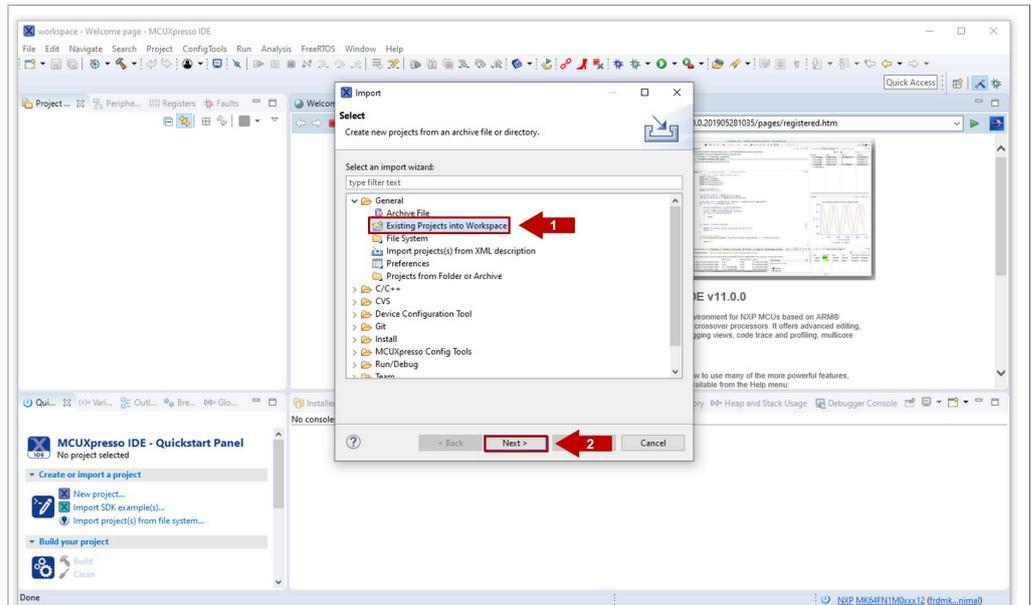

Figure 35. Import a project wizard (II)
2. In the import wizard menu, select import **"Existing Projects into Workspace"** from the *General* folder as shown in Figure 35: